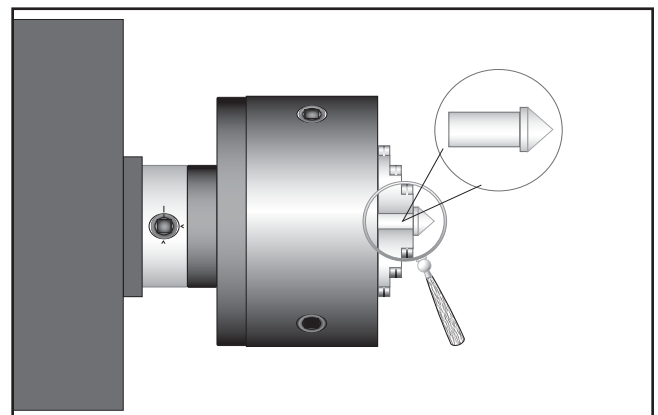

Figure 21. Tailstock centering dead center.
4. Using the other piece of stock, make a dead center by turning a shoulder to make a shank. Flip the piece over in the chuck and turn a 60° point (see **Figure 21**).